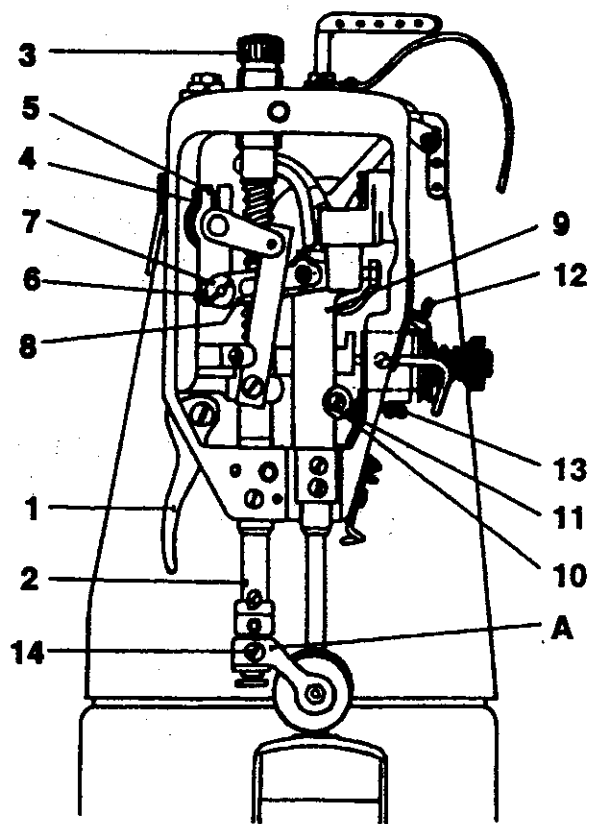

Fig. 10
5. To lift the top roller (Fig. 10)
6. To adjust the movement of needle with respect to feed-dog and feeding (Fig. 10, Chart No. 12)
e) Remove the front post bed cover, loosen the screw (4, Fig. 10) of the lever (5) and adjust the needle onto the feed-dog aperture center. Then retighten the screw.
g) Adjust maximum stitch length. If the different feeding between needle and feed-dog has been accomplished, carry out the adjustment by revolving of the eccentric (7) which is connecting the lever (5) and the conrod (8) with the needle bar holder (9) after the screw (6, Fig. 10) has been loosened. In the end retighten the screw again.
8. To adjust needle bar height (Fig. 10)
12. To adjust function of adjusting spring (Fig. 10)
13. To adjust pressure of presser bar - top roller (Fig. 10)
17. To exchange top roller (Fig. 10)